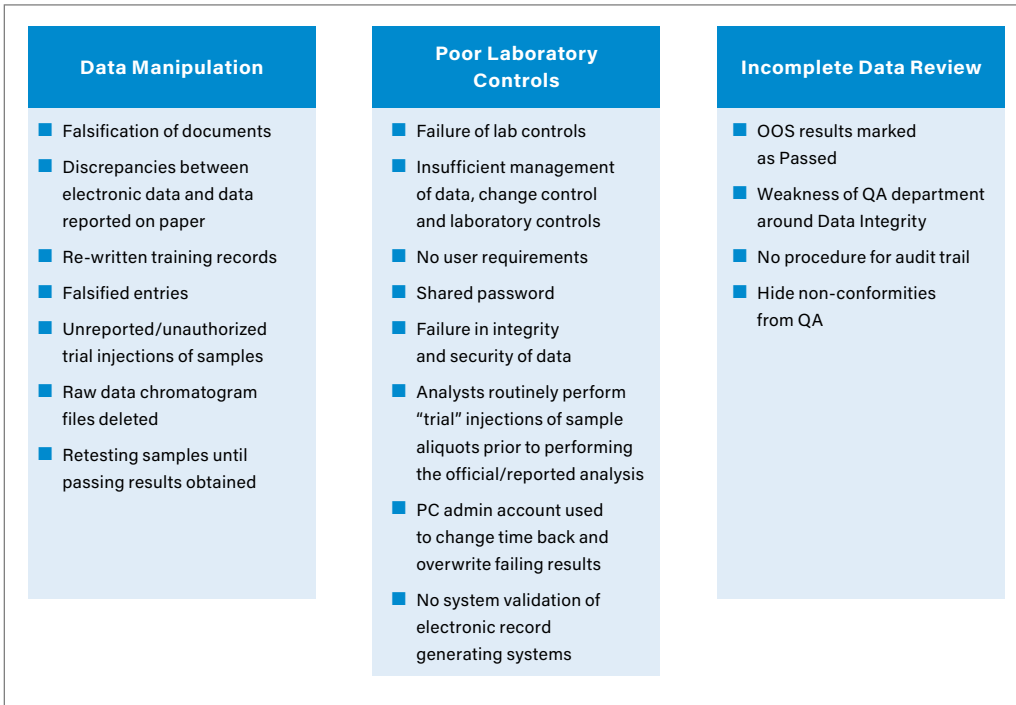

Figure 2. Summary of EU Non-Conformances.
European Union (EU) non-conformance reports include observations of a) manipulation of laboratory data, b) the opportunity to manipulate data based on missing technical controls, and c) incomplete data review processes, which should be able to intercept manipulated data (Figure 2).